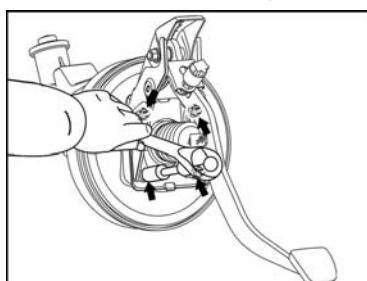

Fig. 2-48
- ② Disconnect the connector of the brake lamp.
- ③ Remove 4 nuts and the brake pedal support. See Fig. 2-48.